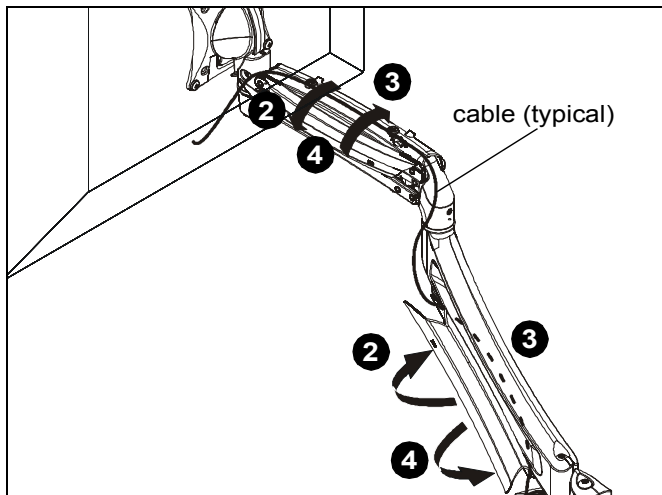

Figure 10
3. Route cables through cable management channels. (See Figure 10)
4. Close cable management covers on monitor arm. (See Figure 10)